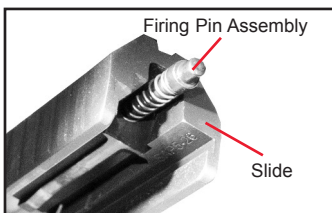

Figure 30
2. Insert the Firing Pin Assembly into the rear of the slide. See Figure 30.